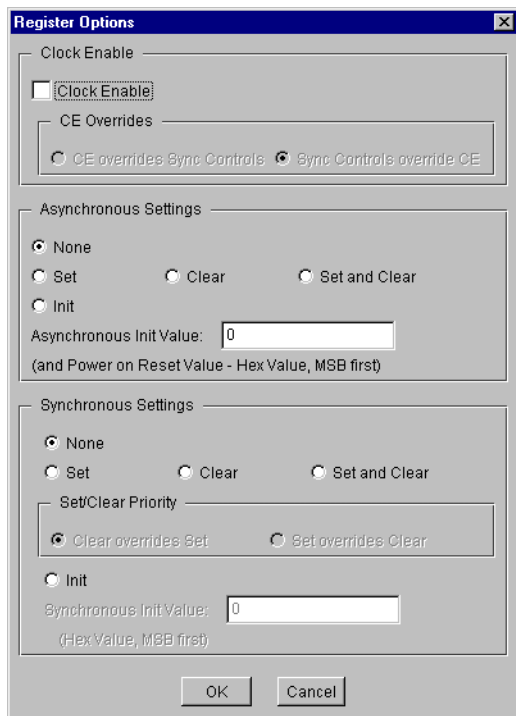

Figure 2: RAM-based Shift Register Options Parameterization Screen
- **Register Options:** Clicking on this button brings up the Register Options parameterization screen (see Figure 2).
The Register Options parameterization screen for this module is shown in Figure 2. The parameters are as follows: